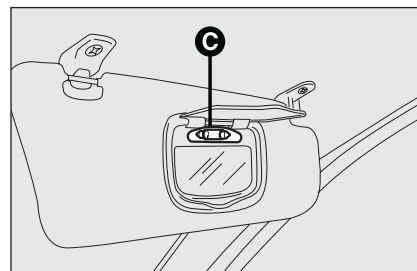

fig. 39
- ☐ replace the bulb **C-fig. 39** releasing it from the side contacts making sure that the new bulb is correctly clamped between the contacts.